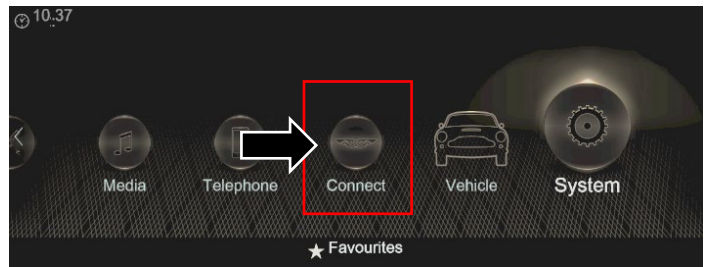

Figure 24
38. In the Head Unit home screen, check that the 'Connect' icon is shown. (refer to Figure 24).